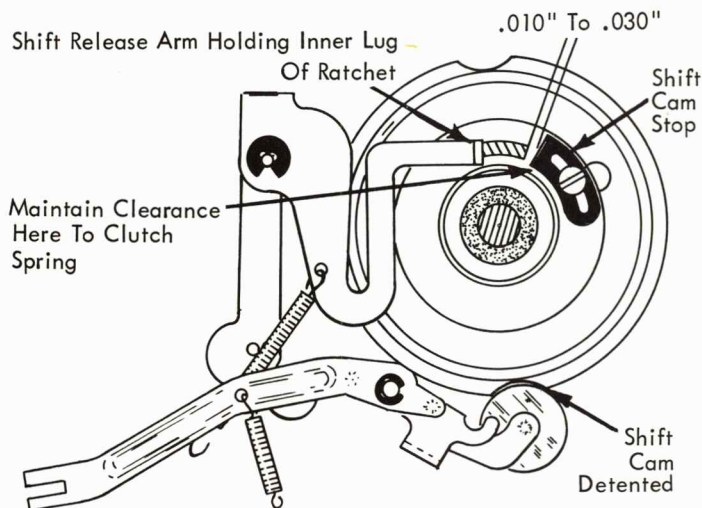

FIGURE 30. Shift Cam Stop Adjustment
3. Shift Cam Stop - Adjust the stop so that the shift clutch ratchet has .010" to .030" rotary motion between the shift cam stop and the shift release arm with the mechanism at rest (Fig. 30).